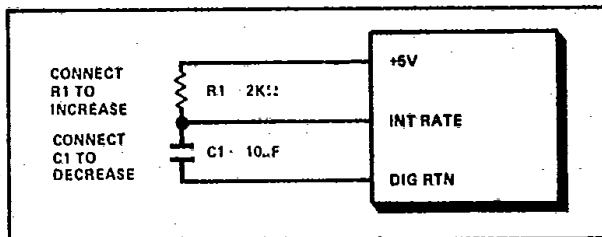
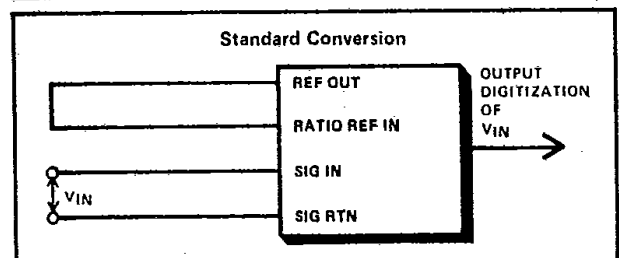
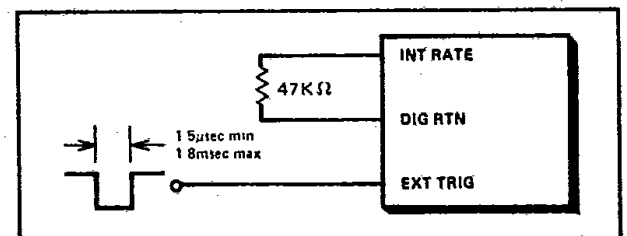
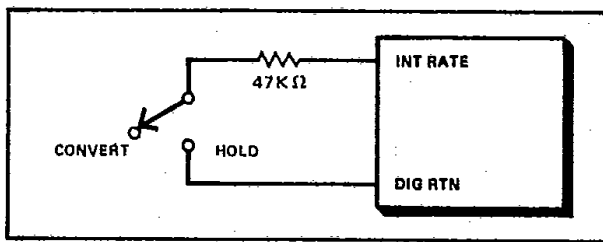

Figure 3. Connections for Adjusting Internal Triggering Rate.
Figure 4. Connections for Standard A/D Conversions.
Figure 5. Connections for External Triggering.
Figure 7. Connections for Commanding Hold or Continuous Conversion.
The MP2321 and MP2322 are particularly qualified as the nuclei of measurement systems. The isolated floating front end allows digital conversion of remote signals which may not be referred to ground; and the computer-compatible control and status connections permit easy interfacing to ancillary equipment. Additionally, these converters are easily customized for use in a gamut of OEM applications simply by selecting the proper pins for the following operations: Ratiometric A/D conversion, useful for automatic compensation of transducer excitation supply drift, or standard digitization (see Figs. 4 and 6); control of the conversion rate — up to 100 readings per second (see Figs. 3 and 5), or conversion initiation by external command (see Figs. 5 and 7) so that digitizations occur exactly when required, and for the MP2322, a choice of output binary codes (see Fig. 9).
External trigger: 100/s max. See Fig. 5
See Fig. 5
**Hold**Conversion held by connecting a 47 k $\Omega$  resistor between INT RATE and DIG RTN. See Fig. 7**Line Frequency Sync**
Adjustment of the built-in triggering rate (4 conversions/s) may be implemented by the circuitry described in Fig. 3. The sampling rate is approximately  $1.44/R_T C_T$ , where  $R_T$  is  $R_1$  in parallel with the internal 82 k $\Omega$  and  $C_T$  is  $C_1$  in parallel with the internal 3.3  $\mu$ F.
Holding or continuously converting the analog input can be selected by means of the circuitry presented in Figure 7. When the CONVERT/HOLD switch is in the HOLD position, the last conversion will be "held" indefinitely; in the CONVERT position, the analog input will be digitized at the rate selected by the methods shown in Figures 3 and 5.
Triggering the conversion cycle externally is implemented by means of the external circuitry shown in Figure 5, and applying a negative pulse (logic "1" to logic "0") 1.5  $\mu$ s min. and 1.8 ms max. duration. The negative going transition initiates the conversion cycle. The maximum conversion rate to specified accuracy is 100/s.